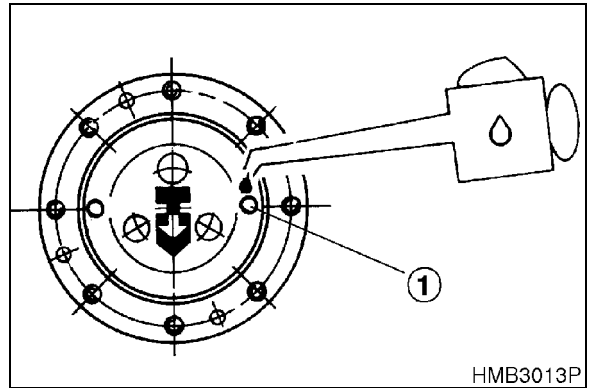

Figure 81
6. Go to level plug holes (1, Figure 81) on axle ends. Add oil to these openings until oil level is even with bottom of plug hole. Recheck level on center differential. Add oil if necessary. When oil level is satisfactory at all three level plug holes, install and tighten level plugs at all three locations.